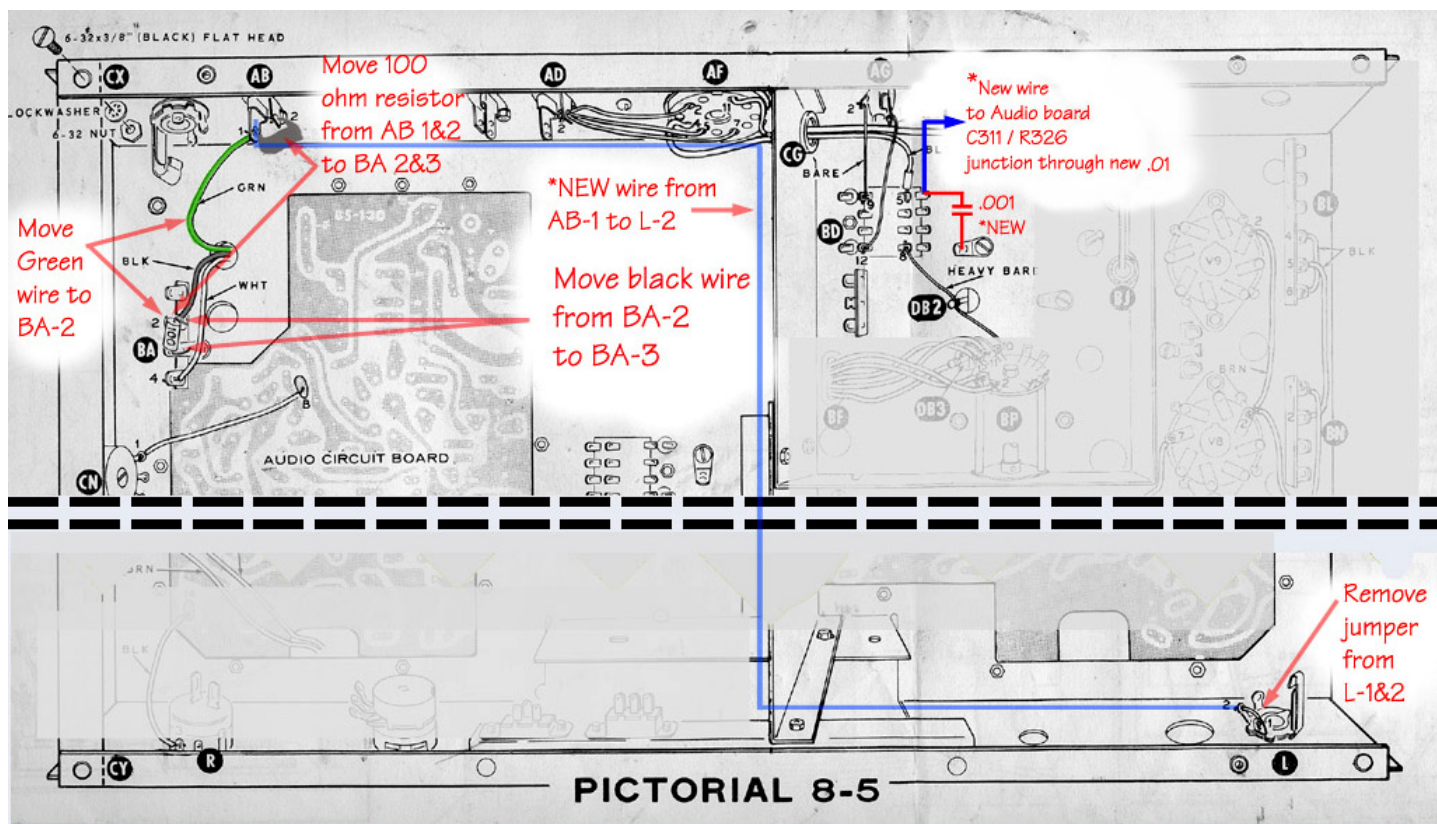

Figure 1
These rigs are designed to be used with Hi-Z headphones, but if low-Z phones are used the outboard speaker will not mute completely with the phones connected. To convert to low-Z phones, make the following wiring changes referring to *(Figure 1)* of this document, and pictorial 8-4 (foldout from page 53), and pictorial 8-5 (foldout from page 67) of the HW-101 manual:
- 1) Connect a .001  $\mu$ fd disk capacitor (DO NOT use a higher value) from relay RL1 pin 1, to ground (**Figure 1**).